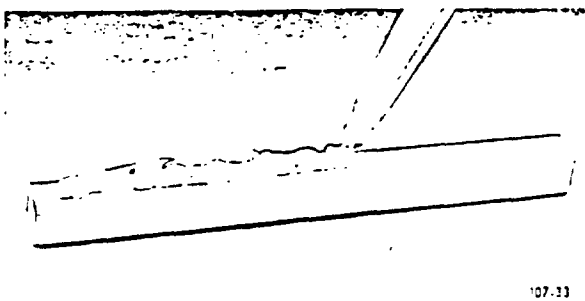

Figure 2-401. Applying Agent to End Gasket
9. Run a bead of silicone rubber bonding agent on the flat side of the new gasket. See Figure 2-401.